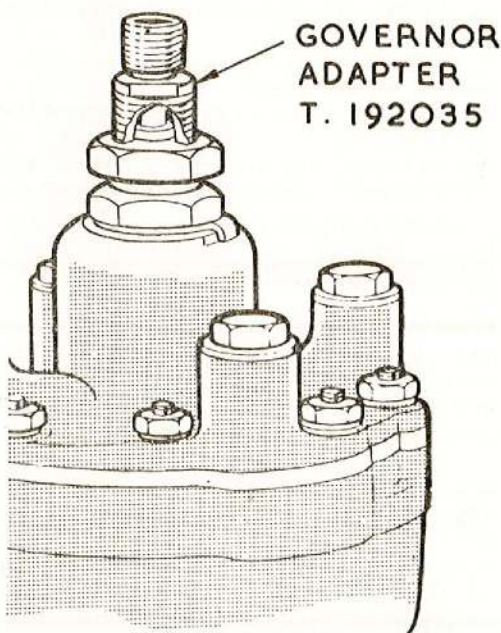

Fig. 40. Checking the centrifugal pressure rise
(1) Remove the governor adjusting screw from the pump and fit in its place the adapter T.192035 as shown in fig. 40.
(2) Three plugs are fitted to the side of the pump body opposite to the servo cylinder; remove the plug marked PUMP INLET and connect one side of the manometer to the exposed tapping then attach the other manometer connection to the adapter on the governor adjustment.
(3) Run the pump at the speed and inlet pressure stated with delivery unrestricted (zero pressure) then close the delivery cock gradually to increase the pressure to the maximum stated. The governor pressure rise must remain constant or increase throughout the range of increasing delivery pressure. There must be no decrease in governor pressure.